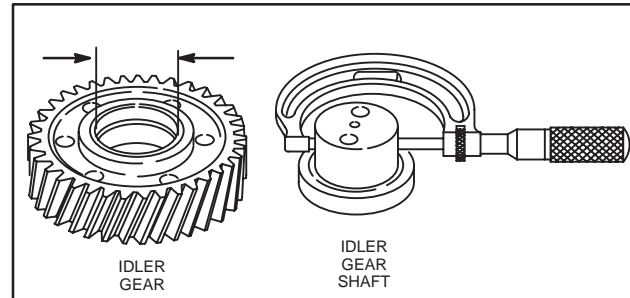

Fig. 7 – Checking Idler Gear And Shaft
2. If back lash exceeds 0.2 mm (.008") check idler gear bearing and shaft for wear, Fig. 7.